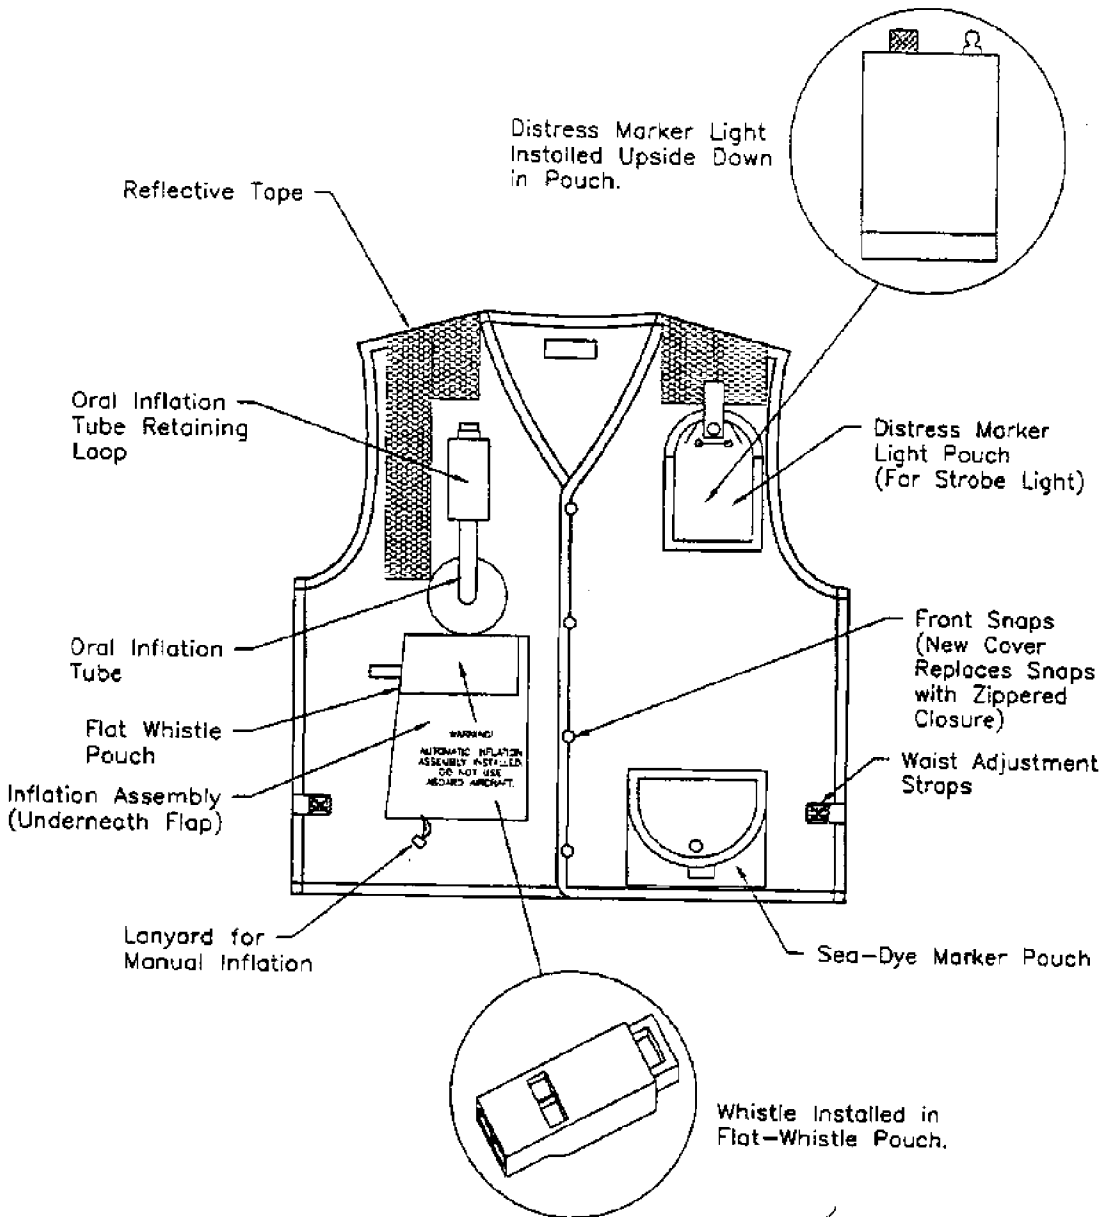
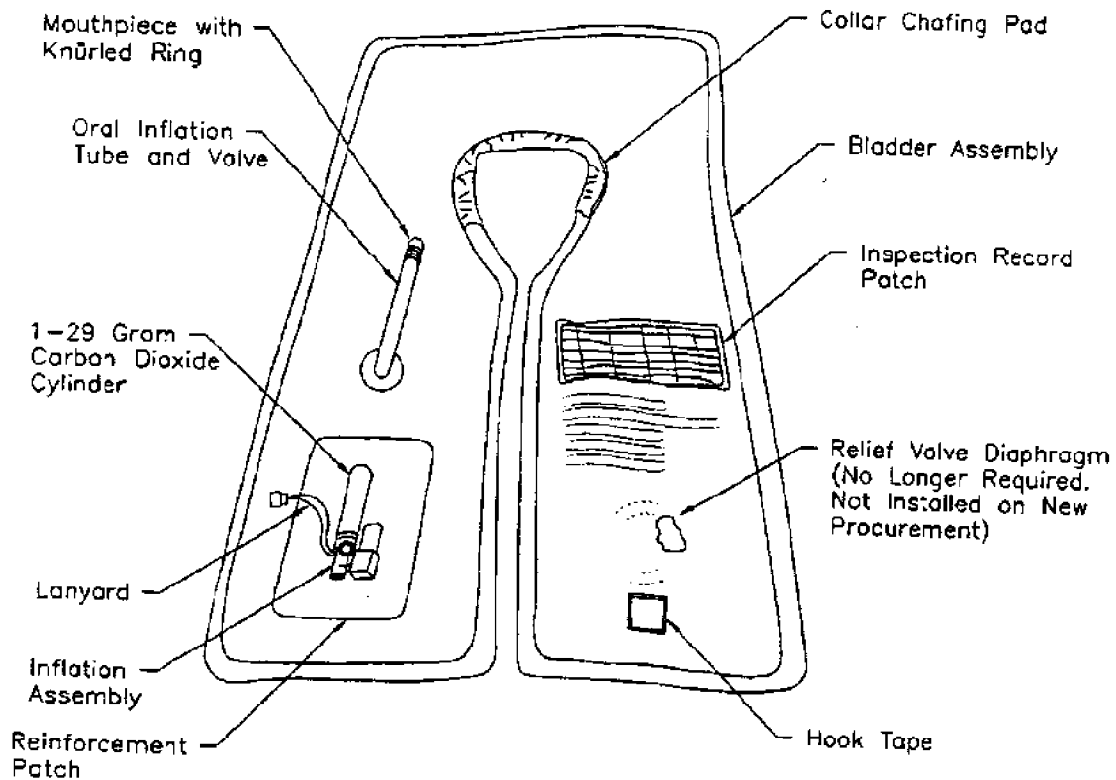

Figure 077-2-9. MK 1 Vest Type Life Preserver
Figure 077-2-10. Inflatable Bladder for MK 1 Vest Type Life Preserver
077-2.3.2.1 Construction. The MK 1, shown in Figure 077-2-9, consists of a cloth cover, an inflatable bladder, and an inflation assembly. The bladder is removable from the cover for cleaning, repair, and replacement of the cover or bladder.
for the inflatable bladder's inflation assembly manifold and the oral inflation tube. A retaining loop for the inflation tube is provided above the opening of the tube (see Figure 077-2-9). The opening for the manifold is located under an inflation assembly protective flap and is large enough to permit passage of the inflation assembly without removing it from the bladder. The protective flap completely covers the inflation assembly. A restraining strap for the CO2 cylinder is sewn into the cover under the inflation assembly protective flap.
077-2.3.2.1.2 The inflatable bladder, shown in Figure 077-2-10, is a single-chamber horseshoe-shaped bladder. One size is used to fit all vest cover sizes. An oral inflation tube and a brass manifold for the inflation assembly are provided on the right front portion of the bladder. The manifold contains a check valve to prevent leakage. A reinforcement patch is located around the brass manifold. To secure the bladder within the cover, a 2-inch by 4-inch piece of hook tape is secured to the left front portion of the bladder.
077-2.3.2.3.2 Manual inflation is accomplished by pulling down on the lanyard attached to the inflation assembly. The lanyard is shown in Figure 077-2-9. The inflation assembly can be manually operated repeatedly, provided the CO2 cylinder is replaced each time.
1. Remove oral inflation tube from the retaining loop (see Figure 077-2-9). Turn knurled ring down as far as possible (see Figure 077-2-10). This unlocks the oral inflation valve.